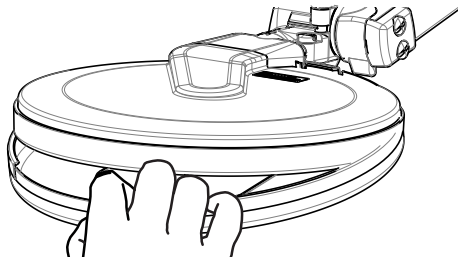

Figure 25: Replacing the Skid Plate
- f. The Skid Plate is designed to protect the coil and may require replacement after long periods of use. There is no requirement to remove the Skid Plate to clean the inside during routine maintenance. To replace the Skid Plate, remove the original using fingers to lever it from the coil, then push the replacement Skid Plate onto the coil (see Figure 25).